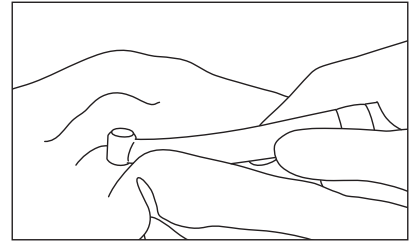

Fig. 11
- 2) Wipe the exterior of the handpiece clean using a cloth moistened with disinfectant or ethanol with a concentration of 60-90% (Fig. 11).